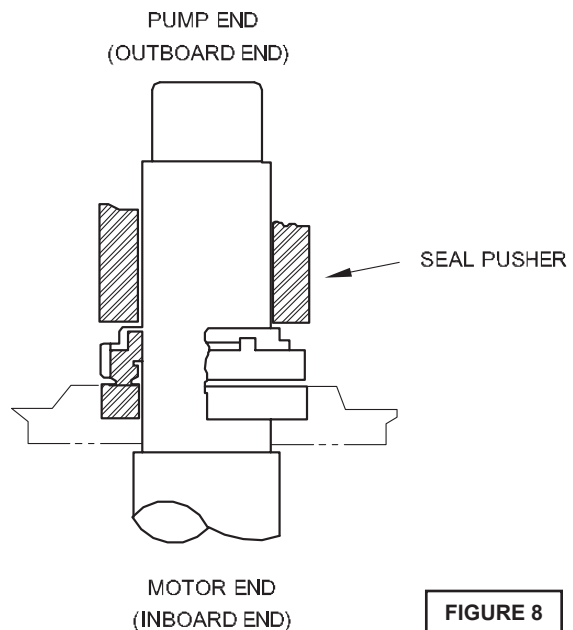

FIGURE 8
Make sure the stationary members are in straight and that the rubber ring is not out of it's groove. Slide a bullet over motor shaft. Lightly oil (**DO NOT use grease**) shaft, bullet and inner surface of bellows on rotating member (38D) (see Figure 8). With lapped surface facing bearing bracket (20), slide rotating member (38D) over bullet and onto shaft, using seal pusher, until lapped faces of (38D) and (38E) are together (see Figure 8).